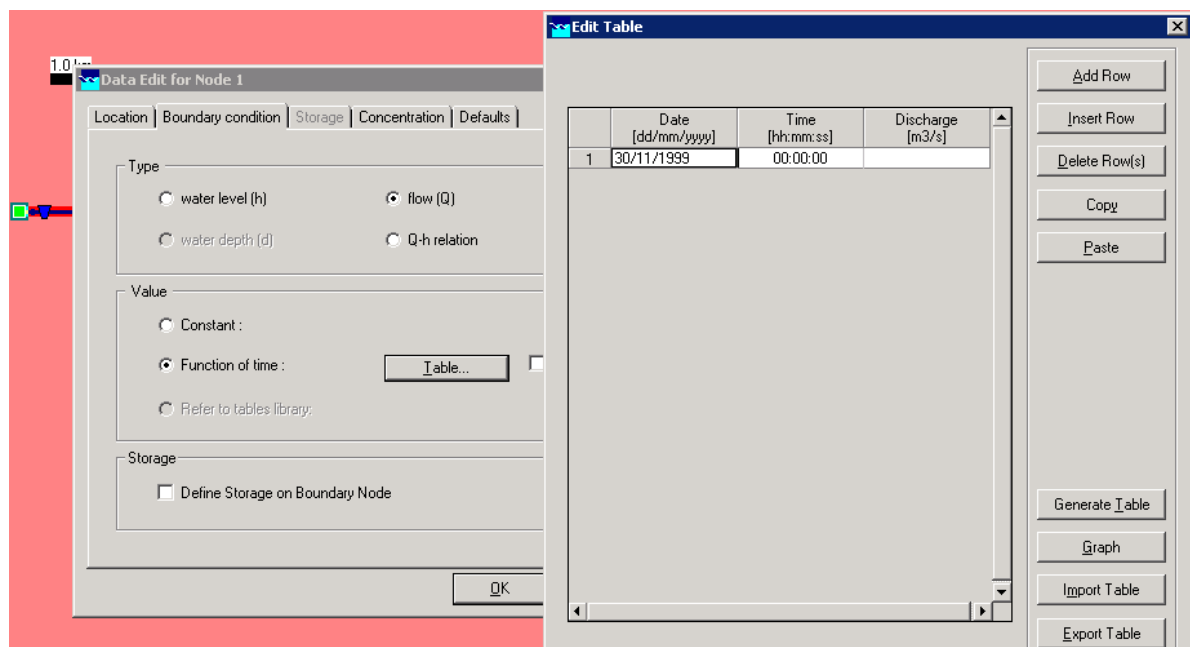
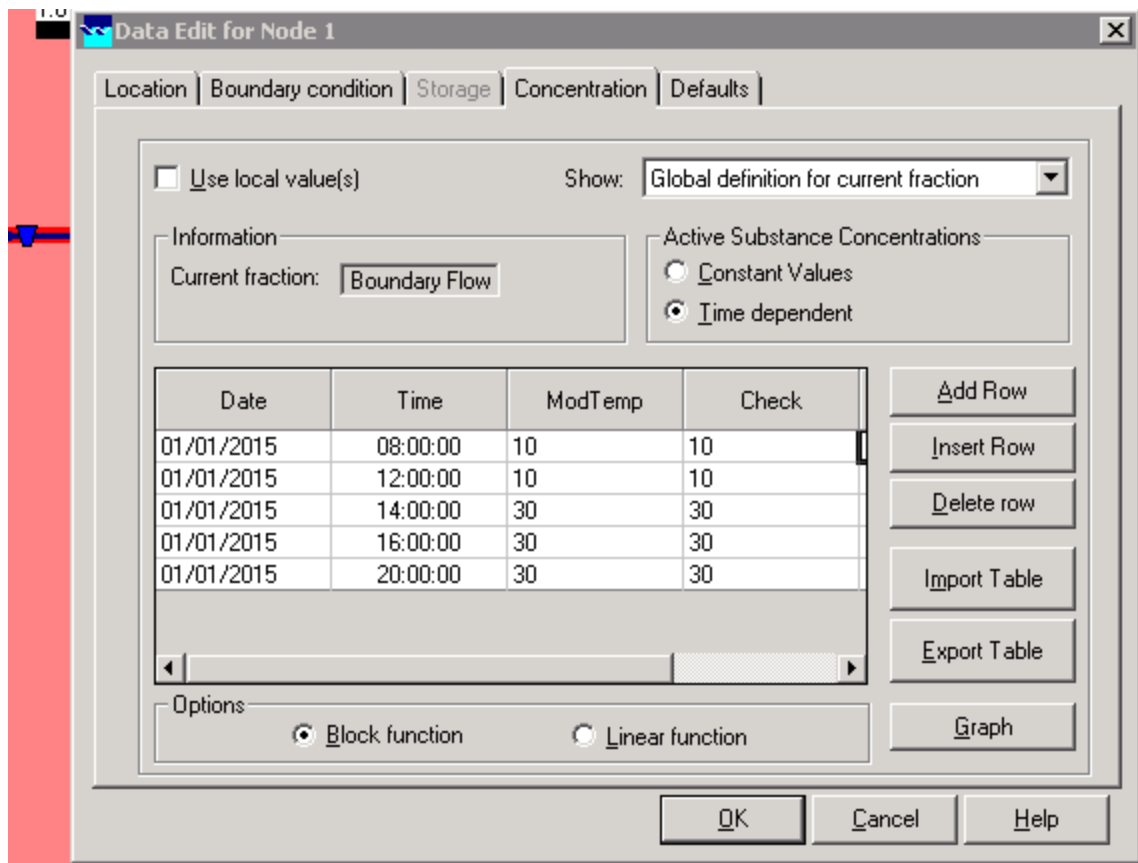

Figure 9
Figure 10
2. The input table for the incoming water temperature is shown by going to the “Time dependent” option of the “Concentration” tab (Figure 9 and Figure 10).